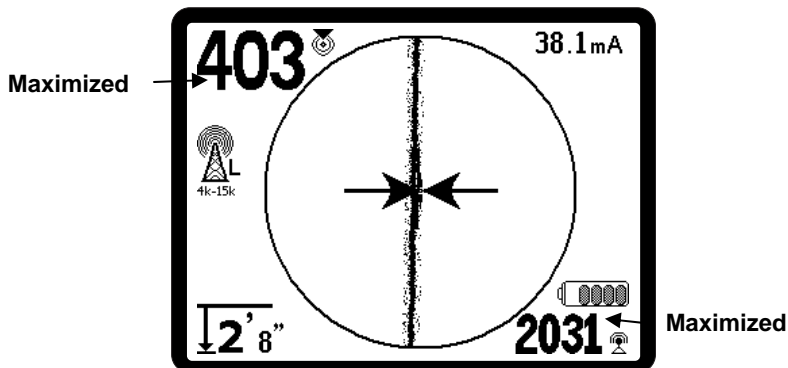

Figure 23: High Probability Locate
3. **Use the Guidance Arrows, Proximity Number, Signal Strength, and Tracing Line** to guide the line trace. These pieces of information are generated from discrete signal characteristics to help the operator understand the quality of the locate. An **undistorted** signal emitted from a line is strongest directly over that line. (Note: Unlike the Signal Trace lines, the guidance arrows require that the user *orient the locator* so that the guidance arrows point 90 degrees to the Signal Trace line. (See Figure 23).